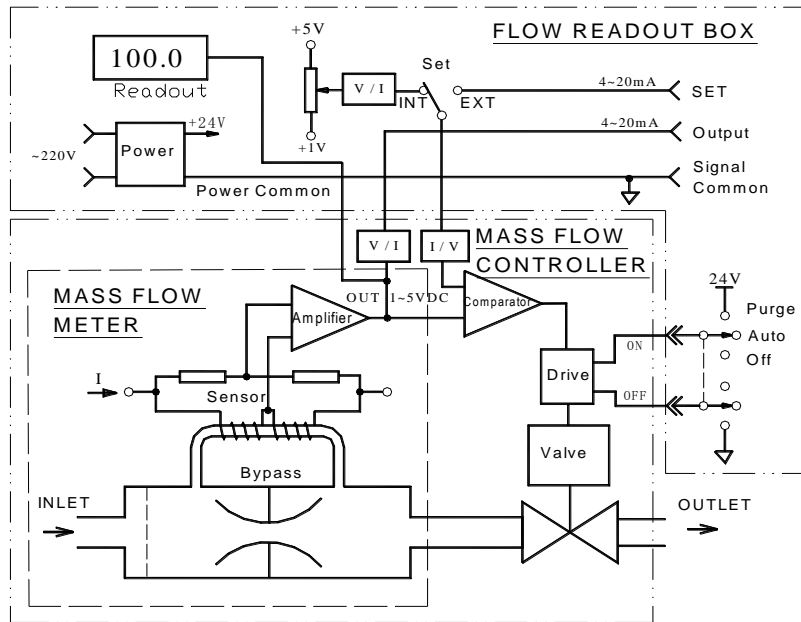
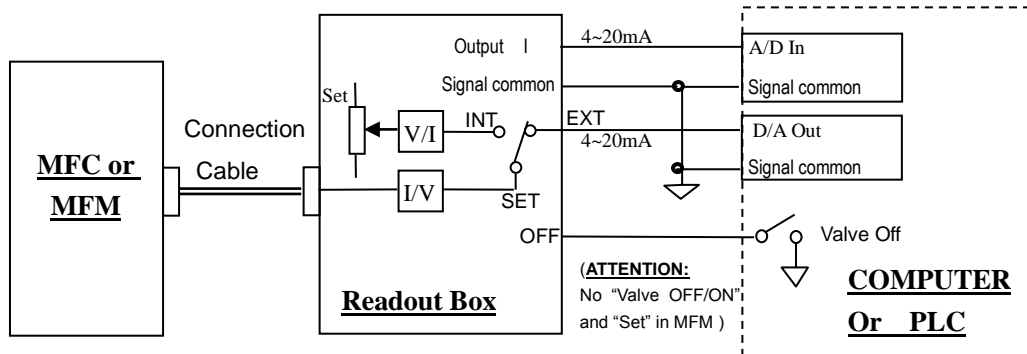
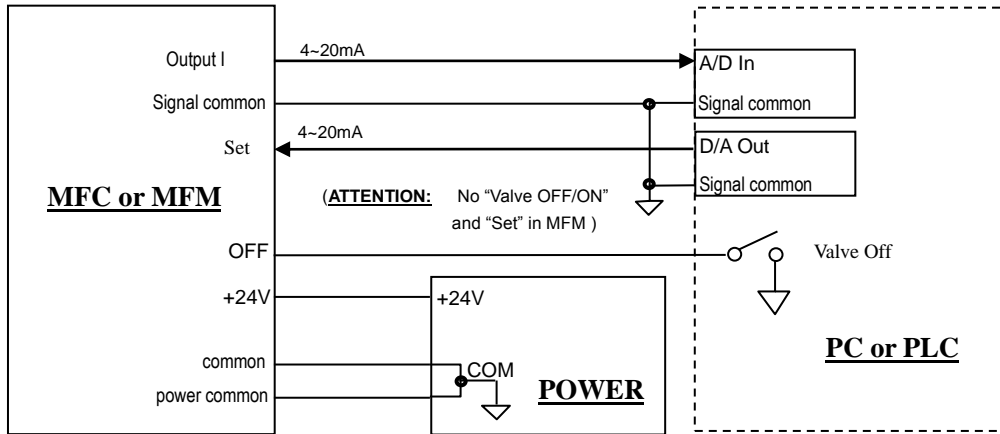

Figure5. Principle of MFC
Figure15. Connection with PC through Readout Box
Figure 16. PC Directly Connection
According to the Capillary Heat Transfer Temperature Difference Calorimetry Theory, the flow sensor measures the mass flow without pressure compensation. The sensor heated the flow signal which was measured by electric bridge and amplified it through amplifier, the amplified flow testing voltage is compared with presetting voltage, the differential signal will control valve after amplified, then the flow rate of closed loop control will be as same as presetting flow rate. The bypass divider controls the flow rate. The corresponding D08 series Flow Readout Boxes have stabilized power supply, 3 and 1/2 digital voltage meter, presetting potentiometer, external & internal converters and three-phase switches. Figure 5 is exactly showing the operating principle while MFC is connecting
- a. Connection through Flow Readout Box with PC or other external signal. (Figure 15)
If PC or PLC need perform the OFF function of valve control, it could be accomplished by use one RELAYS (two sets) transfer contacts, showing in Figure 15.
b. PC Directly Connection (Figure 16)
Please find the reference in Figure 5 and Figure 15, it should set the switch of Readout Box to the “External” and turn the switch to the position of “CONTROL”, and then startup PC.
Please have the reference in Figure 5 and Figure 16, after MFC warming up, it could have PC startup.
When the valve switch sets to “CONTROL” position, users could perform valves control by “CONTROL” wire of external control signal socket, please find the reference in Figure 5 and Figure 15. When valve control wire connects with +15 V, valves will be shutoff; when valve control wire connects with -15 V, valves will be turned to the top of maximum to purge position; when valve control wire hangs in the air, it's in the auto-control situation.